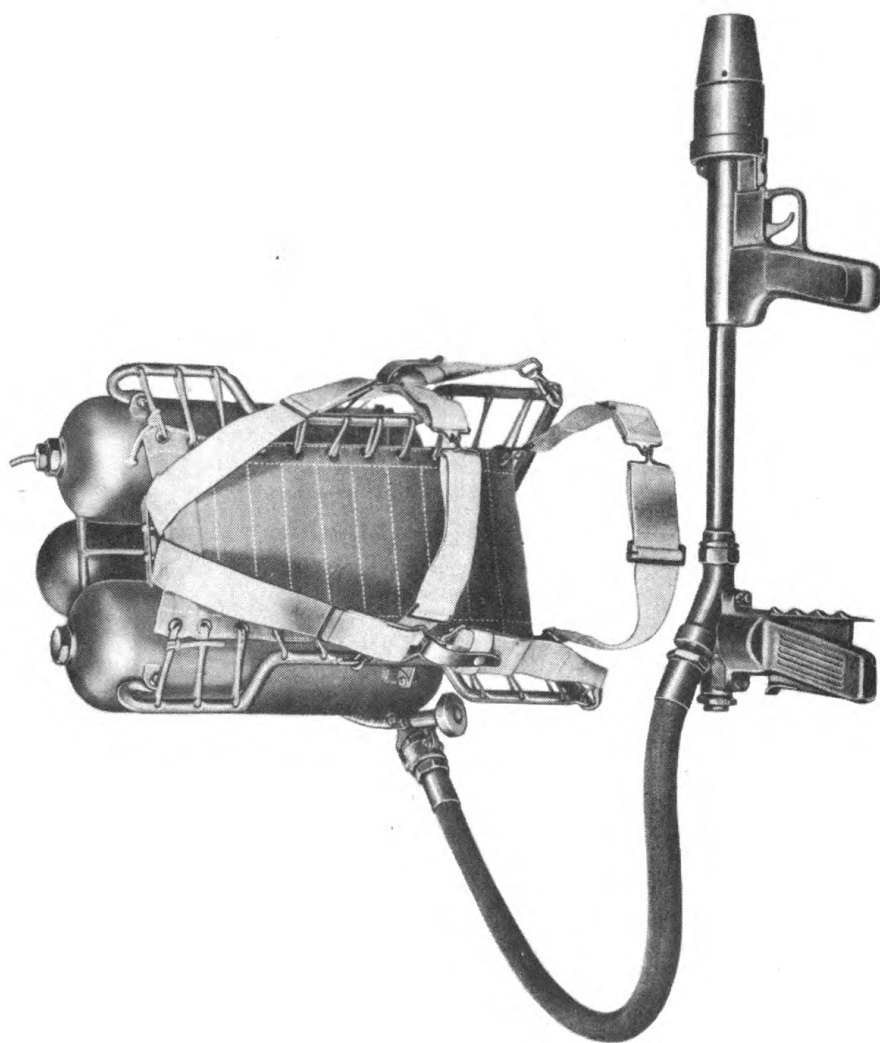

Fig 1. Portable flame thrower M2-2.
a. Action. Fuel is propelled into the target by a charge of highly compressed air or nitrogen. As fuel leaves the gun of the M2-2 portable flame thrower (Fig 1), it is ignited by contact with flame from charges of incendiary mix held in an expendable ignition cylinder.